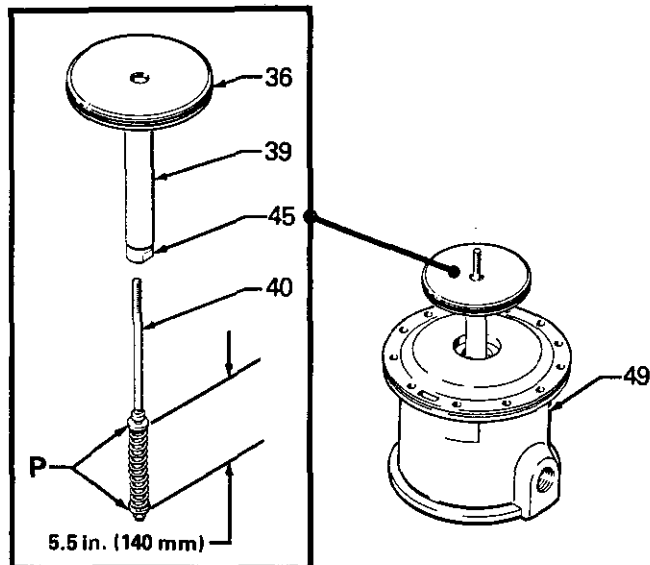

Fig 4
Whenever the trip rod (40) is removed from the piston tube (39) or a new trip rod is being installed, check to make sure the distance between the inside shoulders of the spring guides (P) is EXACTLY 5.5 in. (139.7 mm). See Fig 4.